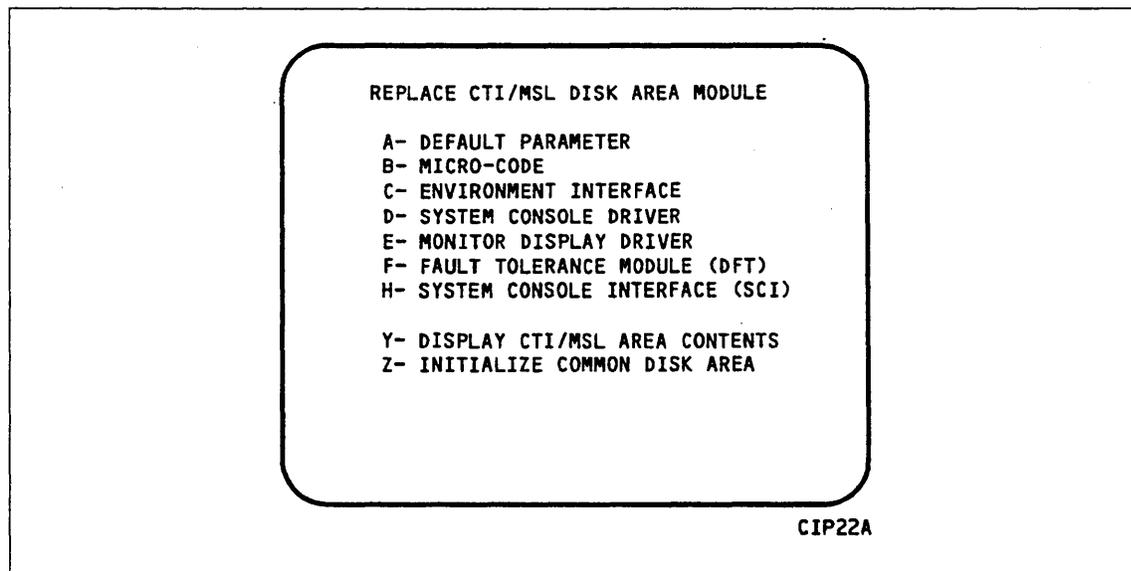

Figure 2-18. Replace CTI/MSL Disk Area Module
Select this option from the MANUAL OPERATION display to replace microcode, EI, the CC634B SCD, MDD, DFT, DPB, SCI, or to initialize the CDA. When option D is selected, you are prompted to enter the CIP device (disk) channel and unit numbers. After you enter the channel and unit numbers or press (CR) to accept the default values shown, the REPLACE CTI/MSL DISK AREA MODULE display shown in figure 2-18 appears. Options A through H manually replace CIP modules in the CDA of the CIP device.